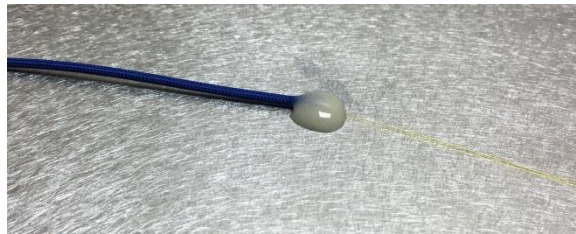

Figure 6: Urethane epoxy holding down fiberglass-sheathed lead.
12. Mix the urethane epoxy in the weigh pan. Apply a drop of urethane epoxy onto the end of the fiberglass-sheathed lead using a toothpick, to hold it in place on the test surface (Figure 6).